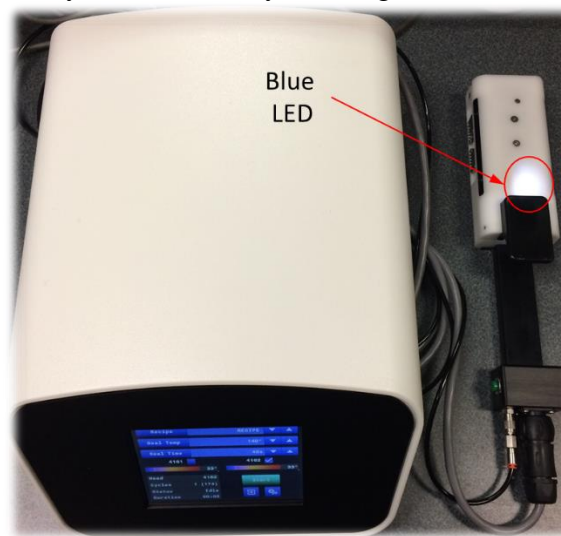

Figure 2.6 Sealing head indicator light
- The sealing head is designed with a status indicator light to help the user operate the system safely and effectively. See Figure 2.6.